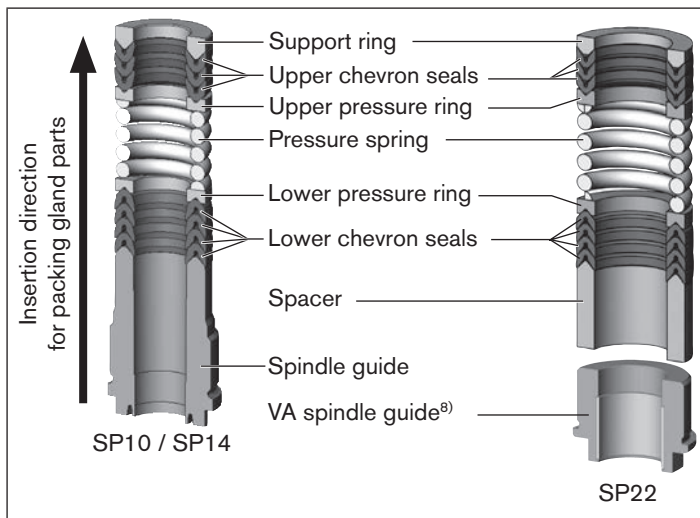

Fig. 29: Seal set for packing gland
- Connect the individual parts to the spindle in the specified direction and sequence (as illustrated in “Fig. 29: Seal set for packing gland”).